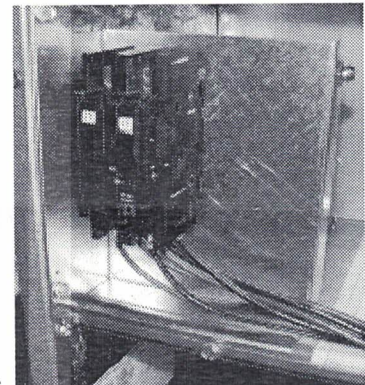

FIG. 1 Breaker Bracket installation.
9. **AIR HANDLERS:** Mount the circuit breaker mounting bracket in the upper LEFT side corner of the cabinet. Insert (4) mounting screws through the control panel flange and into the cabinet left corner post (see fig 1).